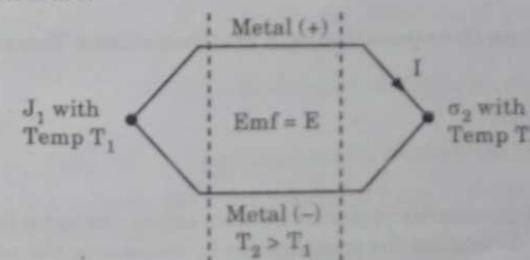

Fig. 2.3.1.
- In Fig. 2.3.1, when heat is applied to any one junction  $J_1$  or  $J_2$ , of two dissimilar metals an emf or voltage is produced which is to be measured at the another junction.